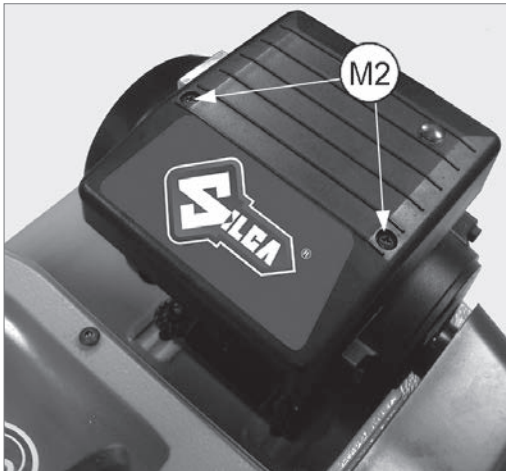

Fig. 50
- 1) Loosen the 2 screws (M2) and remove the motor cover (Fig. 50).
- 3) Remove the switch (K) making pressure on the tabs with a screwdriver.
- 2) Detach the connectors (Z) paying special attention to their position.
- 3) Remove the condenser (Y).
- 4) Fit the new condenser (Z).